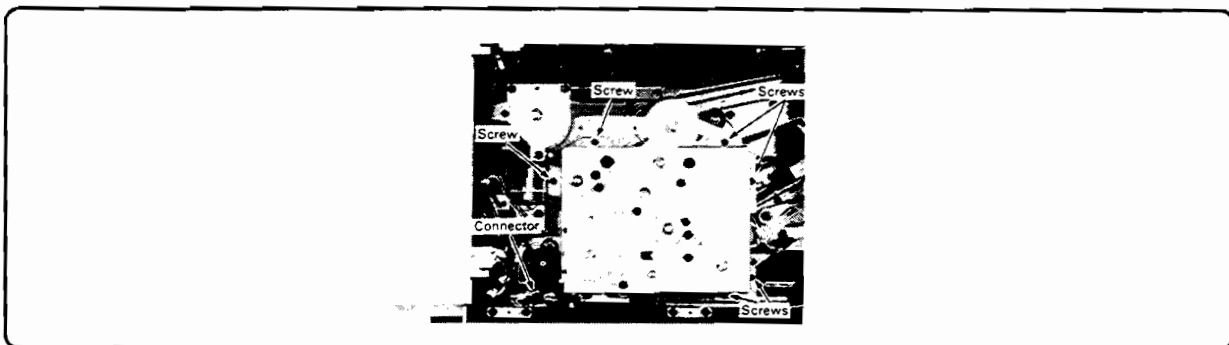

Figure 6-168. Drive Mounting Screws and Connector
4. Unplug the connector, remove the four to six screws, and remove the drive unit (Figure 6-168).